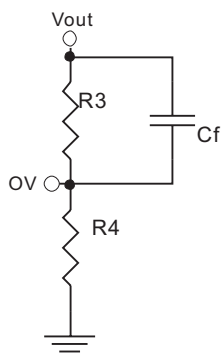

Figure 4: add forward capacitor
- (1) Add a small capacitor (<100pF) parallel with the up divider resistor (See Figure 4).